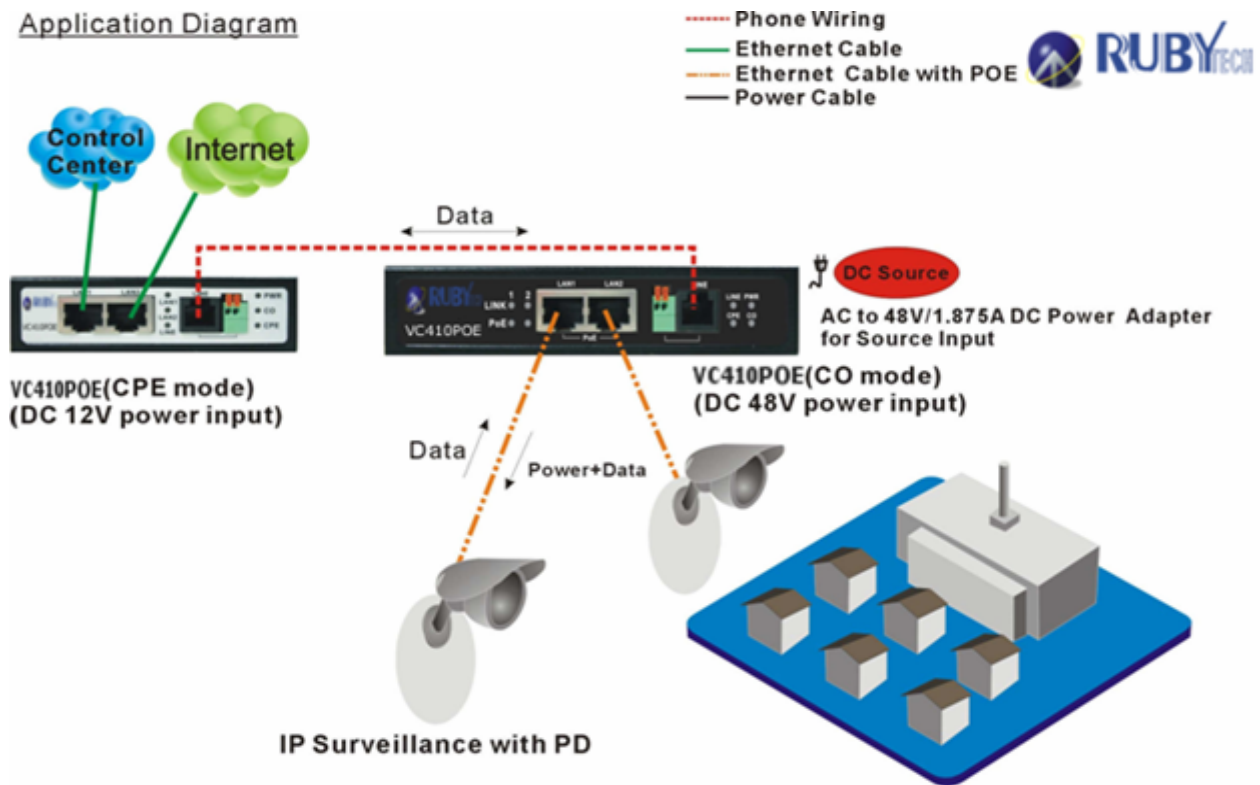

Figure 2.7 VC-410 & VC410POE / VC-410 & VC410POE point to point application diagram
2. If user need use over 1.5 km cable length and also need bigger bandwidth application, such as connect to ip camera. User can use VC-410 & VC410POE (CO mode) and VC-410 & VC410POE (CPE mode) to achieve the ip surveillance for long distance application. (Figure 2.7)